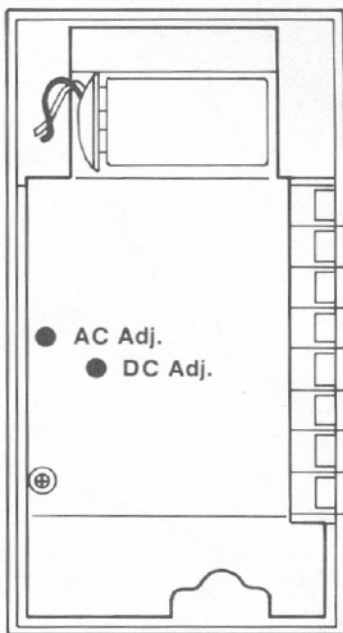

Fig. 6
4. Apply 190mVdc $\pm 0.1\%$ to the Volt and common terminals. Using a small insulated screw driver adjust the DC ADJ variable resistor until the instrument indicates 190.0 ± 1 dgt on the LCD display. See Fig. 6.